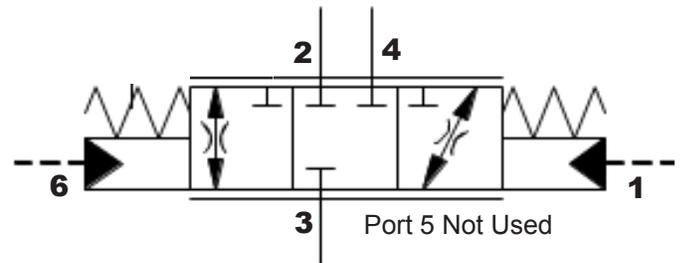

Figure 17 - FTDB-XC\*
- **Figure 17** shows the circuit symbol for an FTDB valve.